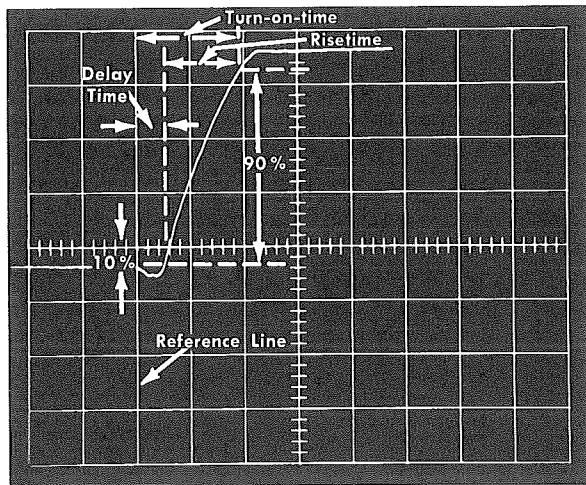

Fig. 3-12. Measuring transistor turn-on characteristics from the leading edge of the collector output signal.
6. Turn pulse generator on. Set Type 290 POWER/POLARITY switch to NPN or PNP (depending on type of transistor under test) and set oscilloscope controls for a display of the collector output signal leading edge similar to that shown in Fig. 3-12. Use this display to measure transistor turn-on characteristics. (For dual-trace test systems, use the signal from the Type 290 50 Ω OUTPUT connector to obtain the display.)